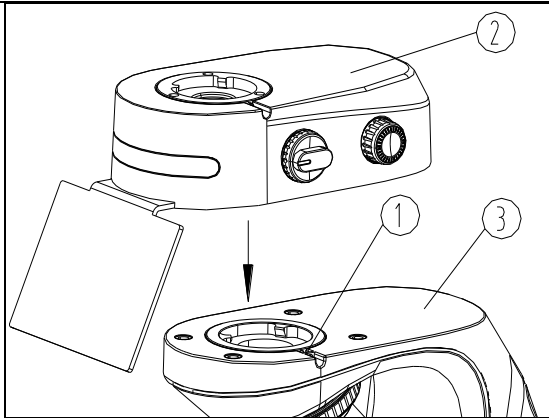

Fig. 30
2. Loosen the locking screw ① of the observation head with the provided hex wrench until the observation head can be removed. Remove the observation head and place on the bench.
3. Put the dovetail interface at the bottom of the LED fluorescence illuminator ② onto the microscope body ③ interface (see arrow), and tighten the locking screw ① with the hex wrench. (See Fig. 30)